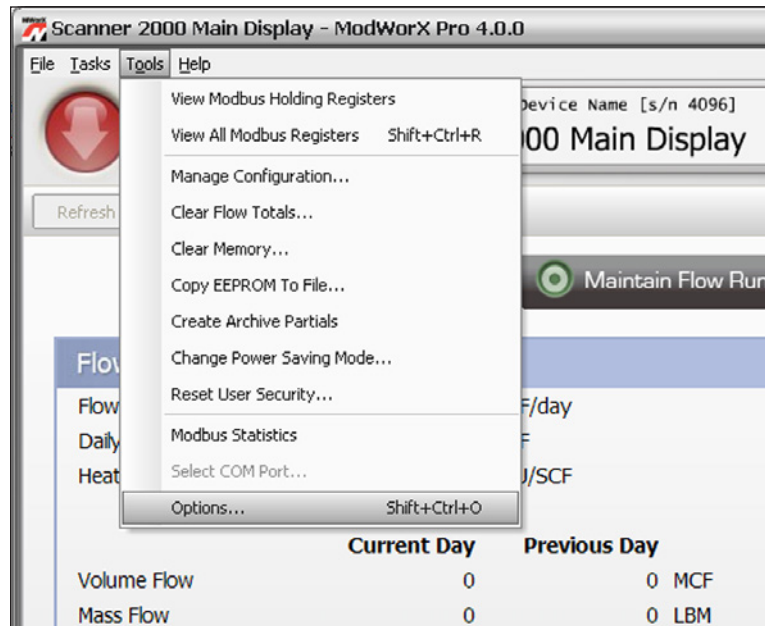
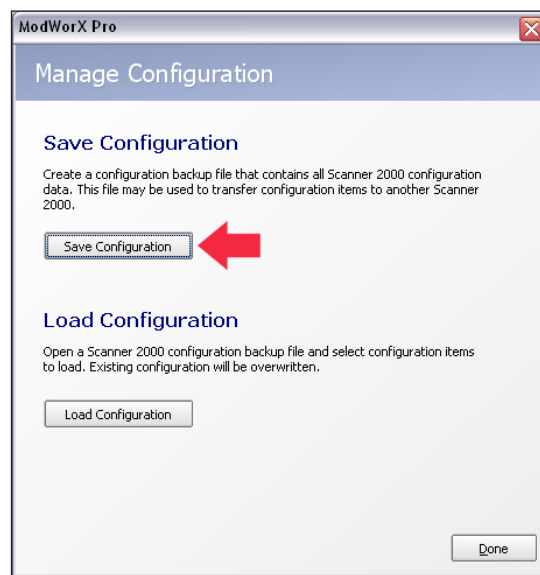
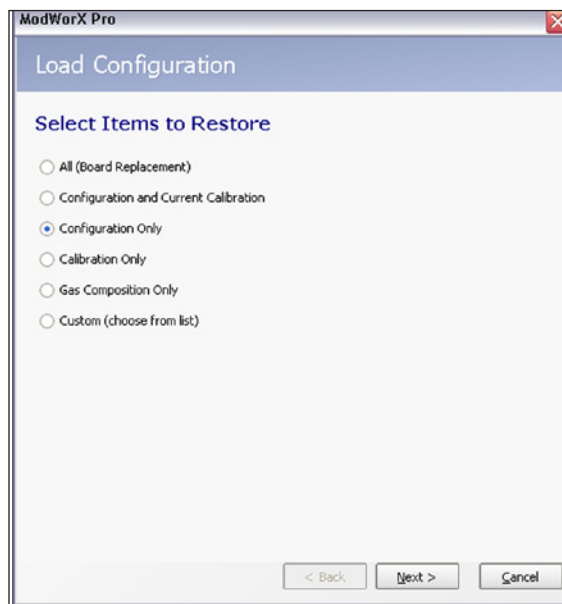

Figure A.1
Figure A.2
Figure A.3
In addition to the standard configuration settings provided in the Configure menu, ModWorX Pro allows users to customize software functions using settings found in the Tools menu. The Tools menu is located in the task bar at the top of the screen (Figure A.1).
1. Click on **Tools>Manage Configuration** (Figure A.1, page A-5). A dialog will appear (Figure A.2).
2. Click the **Save Configuration** button (Figure A.2). A screen will appear, displaying a default filename (for example, Device\_Name\_20070803\_0002.srf) and file location. The default file location is C:\NuFlo Log Data\ModWorX Pro\<Field\_Name>\<Site\_Name>.
1. Click on **Tools>Manage Configuration** (Figure A.1, page A-5) and click **Load Configuration**. The Load Configuration dialog shown in Figure A.3 will appear.